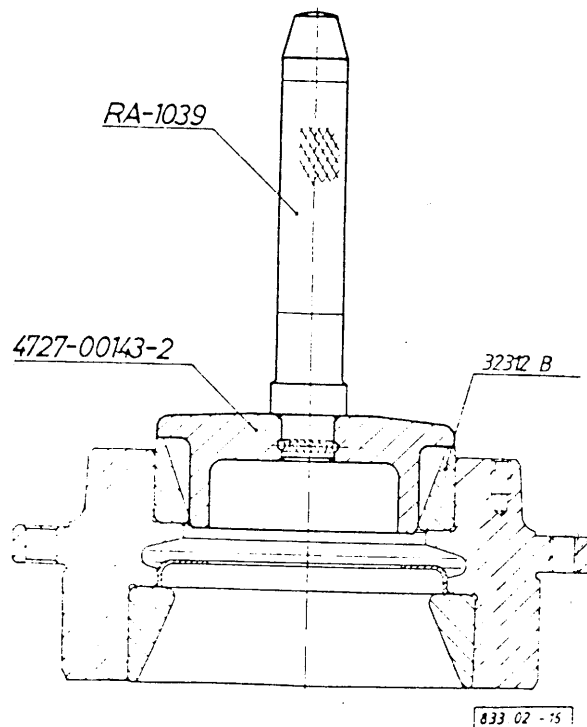

Fig. 6.: DRIVING IN THE CUP OF OUTER TAPER ROLLER BEARING
Turn the bearing cage over and by means of the tools shown drive in the cup of the outer taper roller bearing to bottom out (see Fig. 6.).
By the tool shown in **Fig. 6. of Section 313** press the companion flange (3) to the drive pinion. Screw on the flanged castle nut (1) and tighten to **540 - 590 Nm** torque.